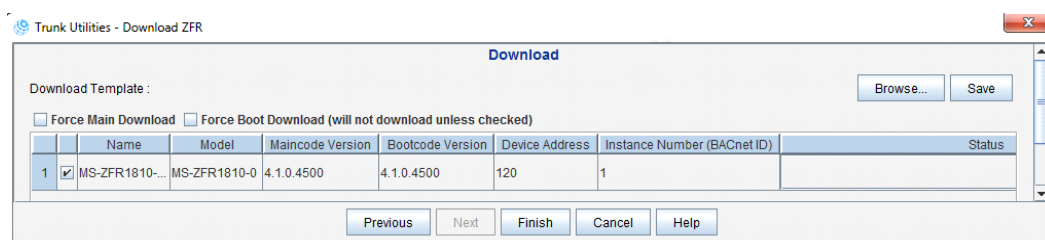

Figure 15: Trunk Utilities - ZFR1810 Download Window
3. Select the check boxes next to the devices to upgrade (Figure 15).